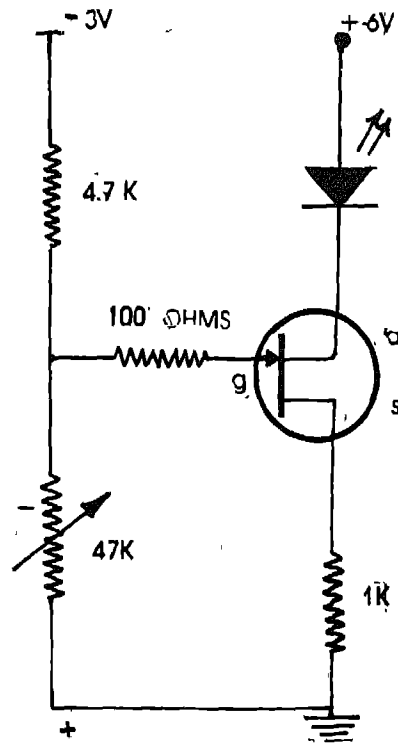

Fig. 15.4
1. Connect the circuit as shown in Fig. 15.4.
2. What would happen in the source resistance of $1K\ \Omega$ in Fig. 15.4 is replaced by $5K\ \Omega$.
4. Why a resistance of $100\ \Omega$ is connected in series with the gate of FET in Fig. 15.4?